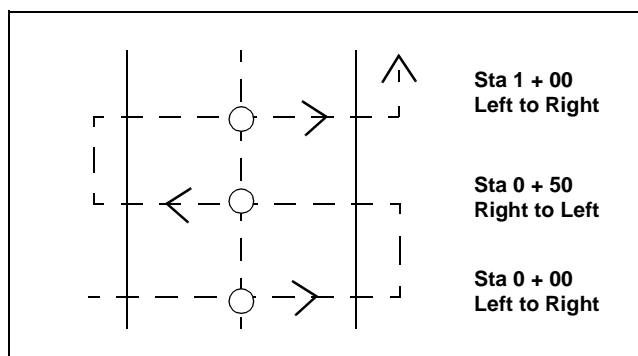

Figure 26-1: Survey cross-sections by walking the minimum distances
- walking the minimum distances (see Figure 26-1)